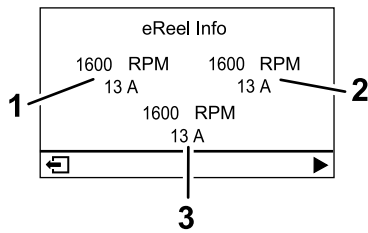

Figure 19
- **eReel motor screen (Figure 19):** shows the speed and current of each cutting-unit motor.